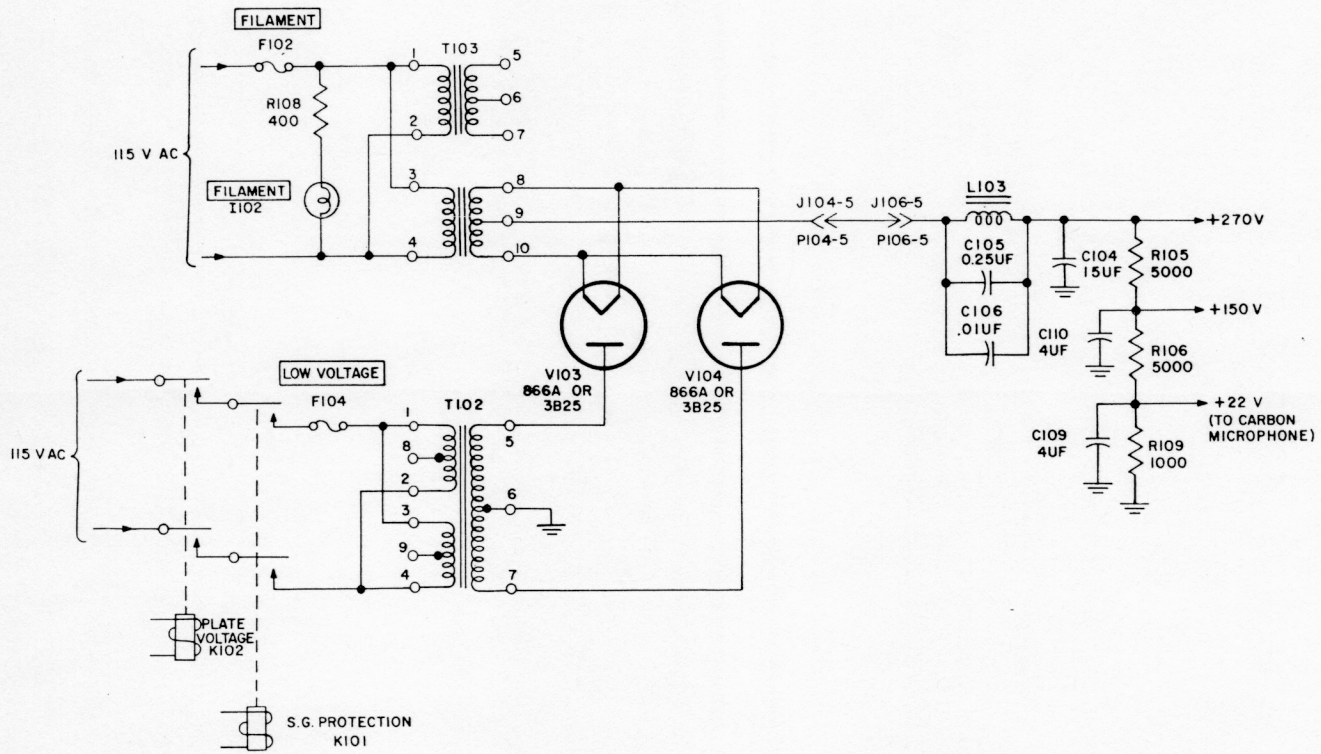

Figure 4-13. Low Voltage Supply, Simplified Schematic Diagram
b. LOW VOLTAGE SUPPLY. - (Refer to figure 4-13.) The low voltage supply consists of a full-wave rectifier, an "L" section choke-input filter, and a bleeder network. The rectifier, contained within the Rectifier and Control Unit, uses two 866As connected in a full-wave circuit. The a-c primary power is supplied the rectifier by transformers T102 and T103.